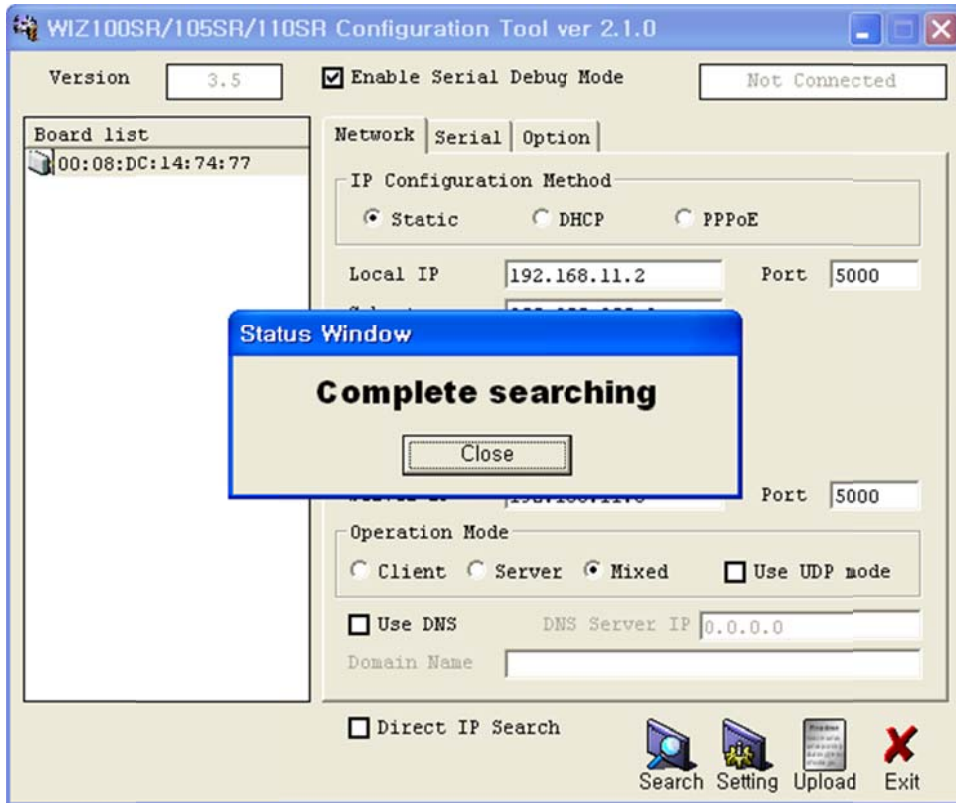

Figure 10. Board Search Window
3. As shown in Figure 10, select Option tab and check 'Enable' combo box of "Password" menu.
④Serial Configuration:
- ① Select a module shown in "Board list", and click "Upload" button.
- ⚠ Before uploading through Ethernet, you should set the network information of WIZ105SR first by Configuration Tool program as shown above Fig 10. By using Ping test, you can check if network is correctly configured.**
- ② When the window as shown below Figure is displayed, select file for upload and click "Open" button.